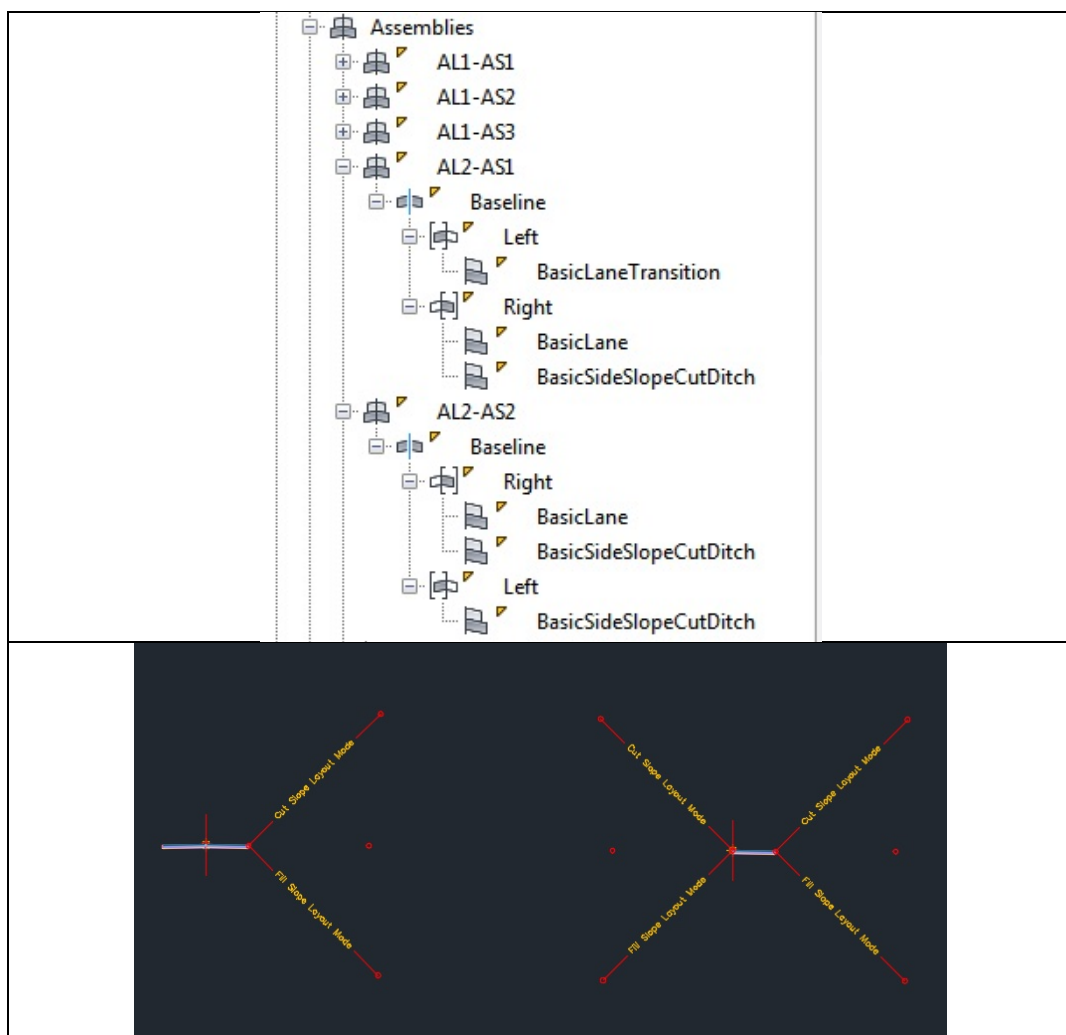

Fig. 8. New assemblies in CORR2.
- As CORR1 has been redefined, the old associated surface CORR1 – (1) must be removed and a new associated CORR1 – (2) has to be created.
- CORR2 needs to be redefined in a similar way. Define assemblies AL2-AS1 and 2 as shown in fig. 8.